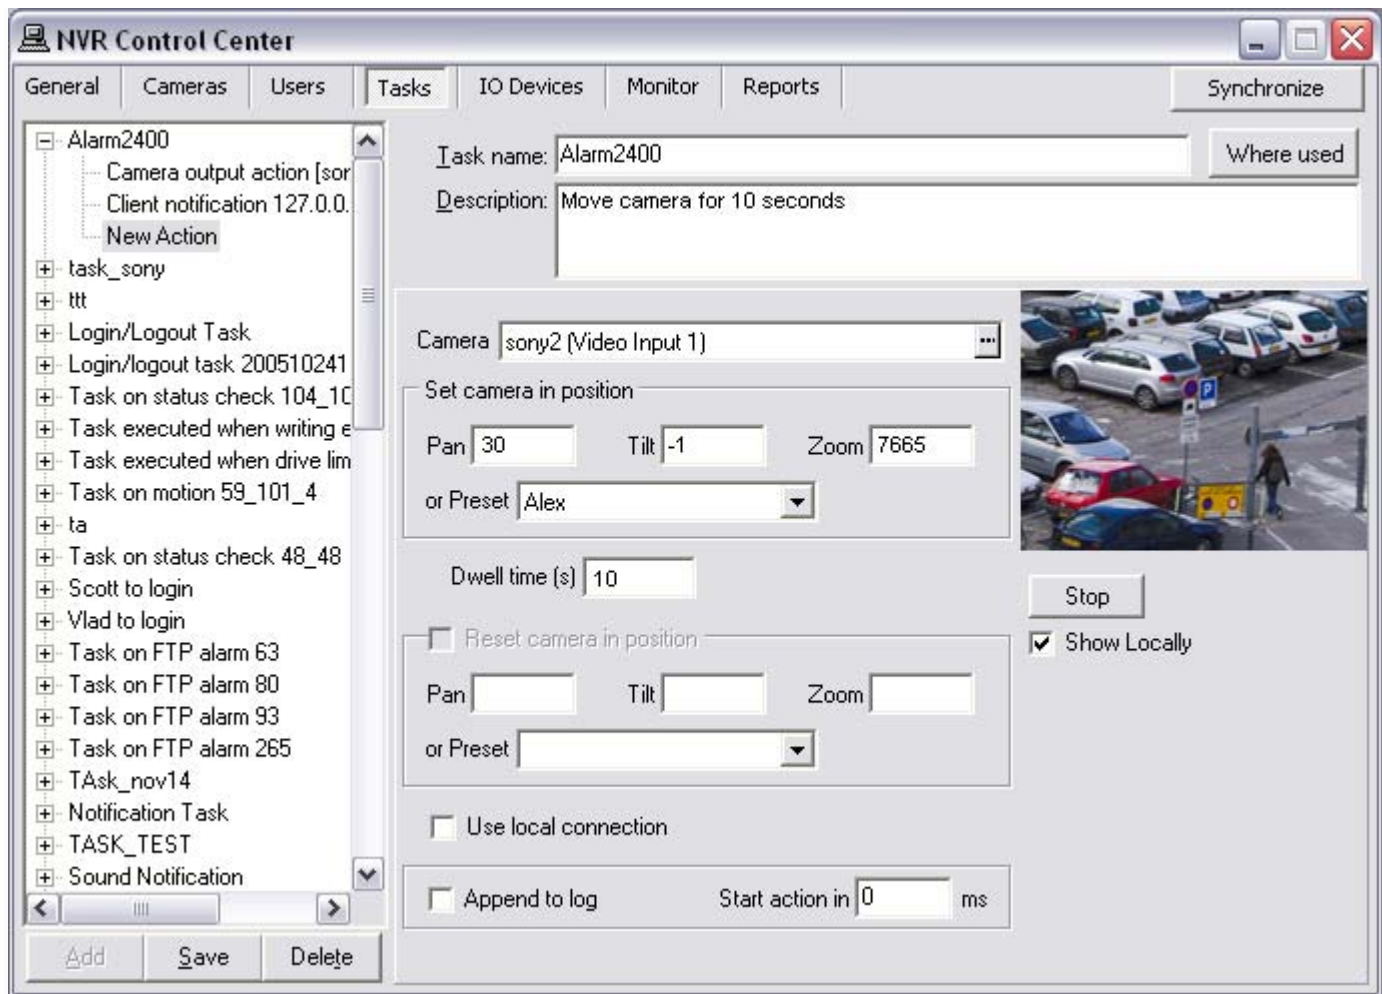

Fig 77. NVR Control Center — Tasks
1. To setup camera recording position under the **Set camera in position** enter **Pan**, **Tilt**, **Zoom** parameters or select a preset position from **Preset** drop-down list (Fig 77).